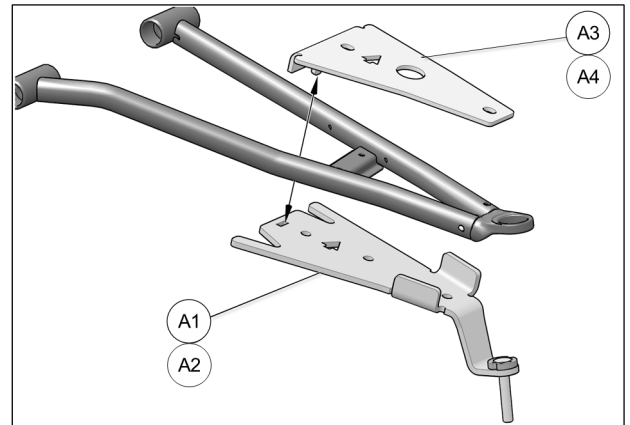

Fig. 16
5. Position bottom part of anchor bracket (A1-A2) under lower suspension arm. Position top part (A3-A4) over suspension arm and insert tenon in mortise cut in bottom part. Fig. 16